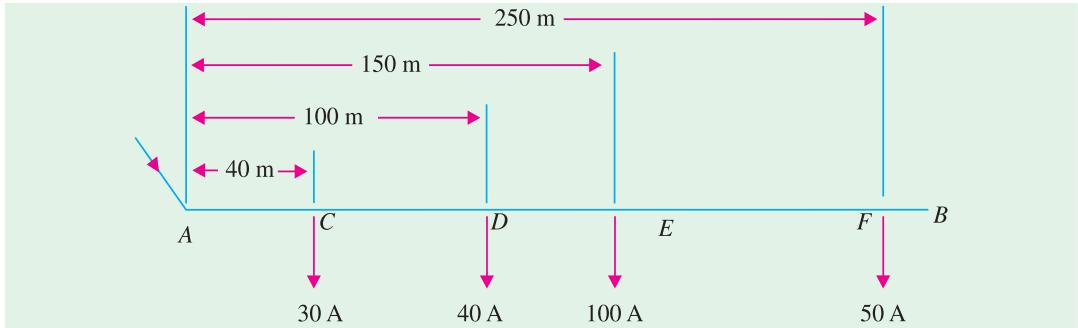

Fig. 40.10
**Solution.** The distributor along with its tapped currents is shown in Fig. 40.10.